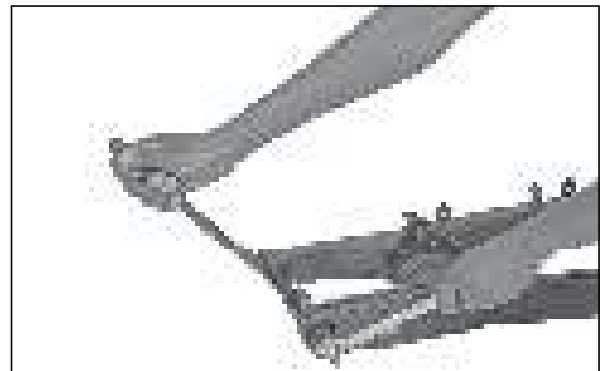

Fig. 6.153
- Reassemble the needle bearing using the special tool. (Fig. 6.153)